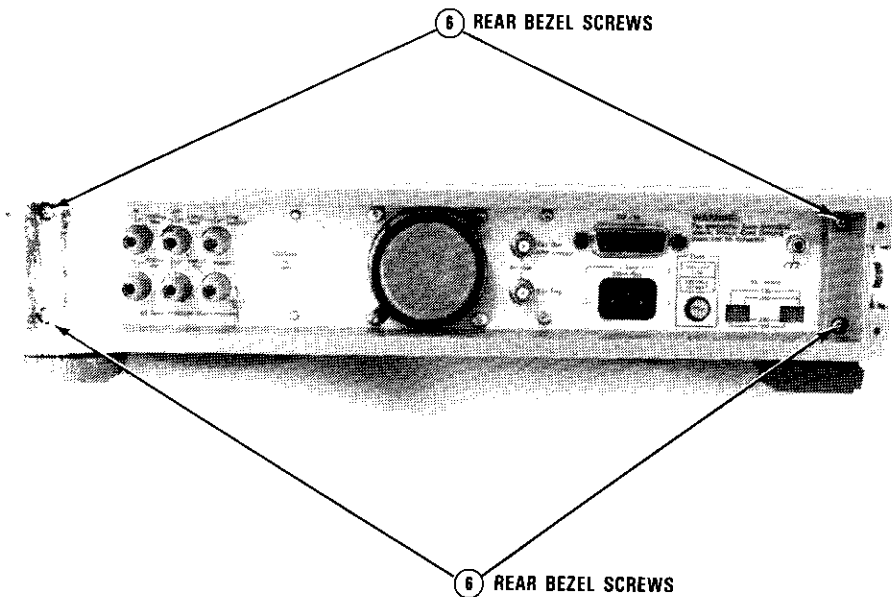

Figure C-4. HP 3458 Rear View
8. Refer to Figure C-4. Turn the instrument so its back faces you.
5. Refer to Figure C-4. Turn the instrument so its back faces you.